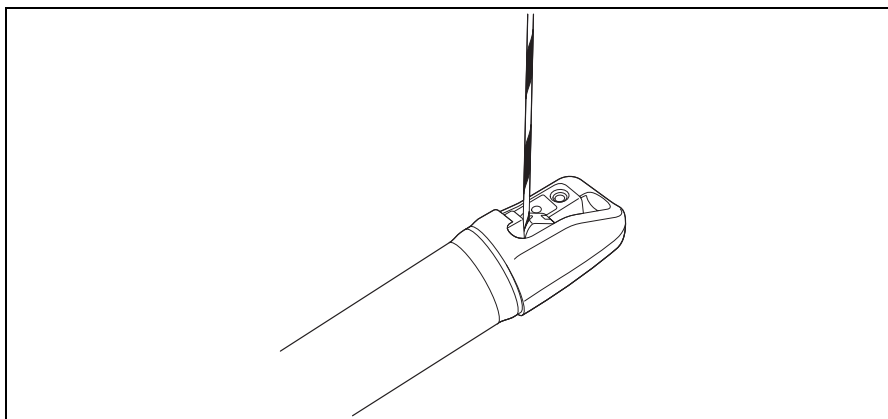

Figure 4.4
4. The guidewire is fixed in the guidewire-locking groove on the forceps elevator at the endoscope's distal end (see Figure 4.4).